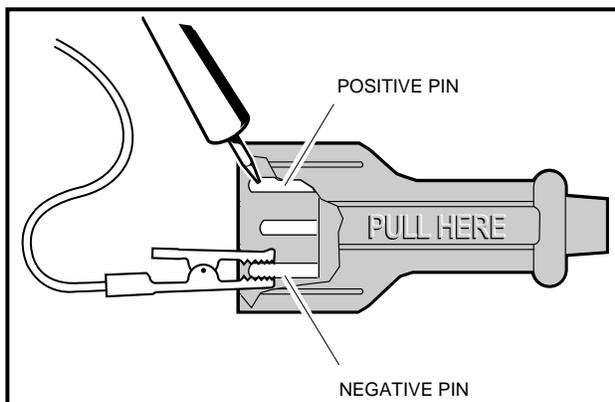

Figure 14-15 DC Plug Test Leads
1. Using a continuity tester (Club Car Part No. 1011273) or multimeter set to 200 ohms, connect the test leads to the pins marked (+) and (-) on the DC plug (**Figure 14-15, Page 14-15**) and note the readings.